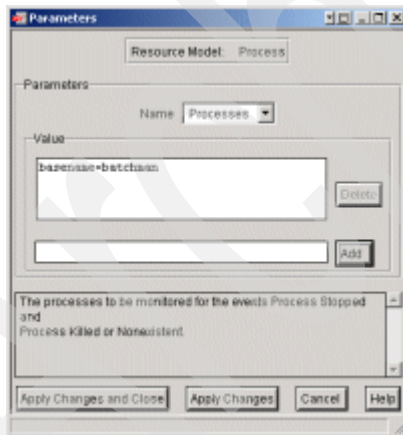

Figure 9-85 Adding batchman to parameter list
6. Enter the text `basename=batchman` in the Value text field, and then select **Add**. The value is added to the Value list as shown in Figure 9-85.